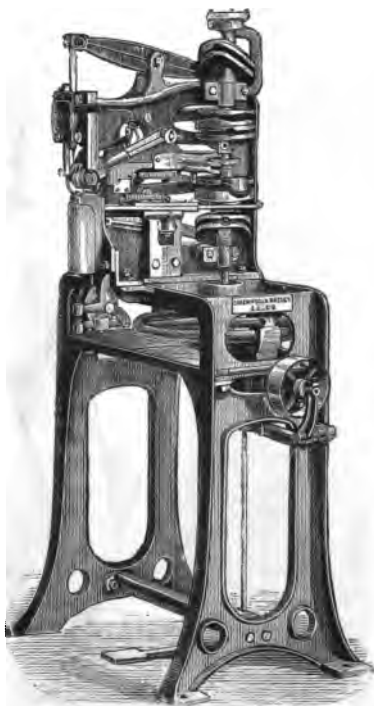

Fig. 86.—KEATS' FAIR-STITCHING MACHINE.
**The Keats' Fair-Stitching Machine.**—The introduction of this machine (Fig. 86) may be said to have commenced a new era in the history of attaching soles to uppers, inasmuch as it stitches the sole on the welt middle sole with a lock-stitch equal to the best hand work. After the boot or shoe has been lasted, you can sew on a middle sole reaching to the heel or to the joints. The better mode is to put on a half middle sole and stitch it to the inner with the Blake Sole Sewing Machine. The outer sole being channelled, fix